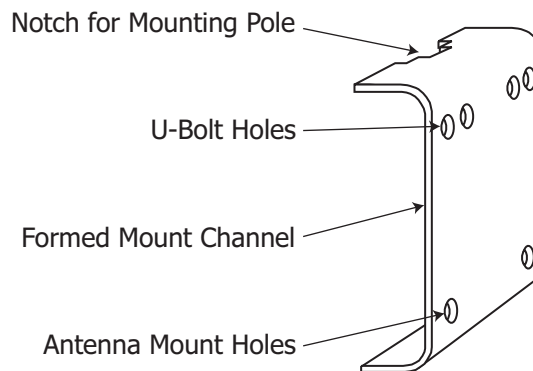
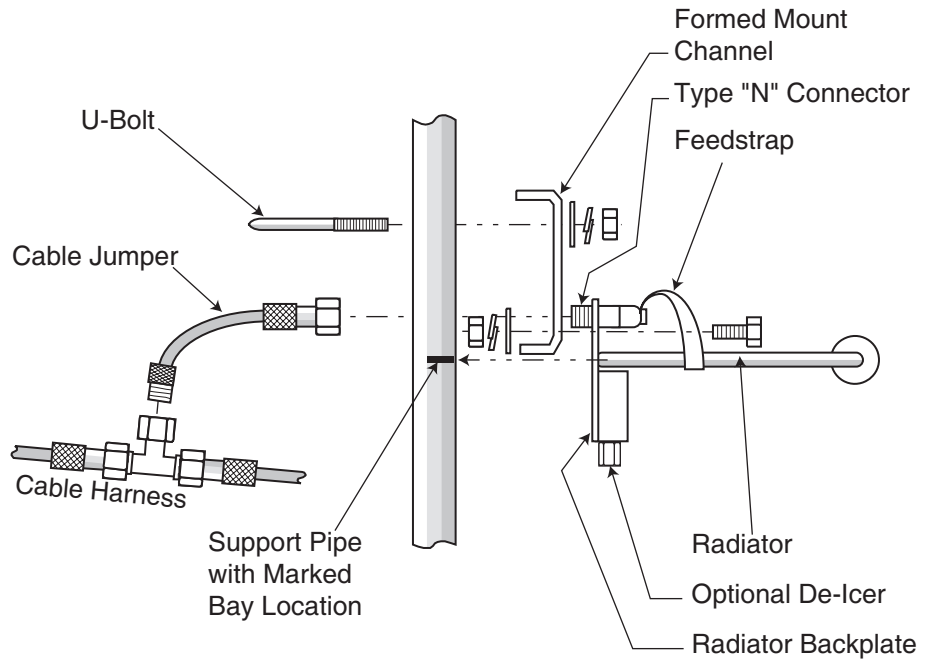
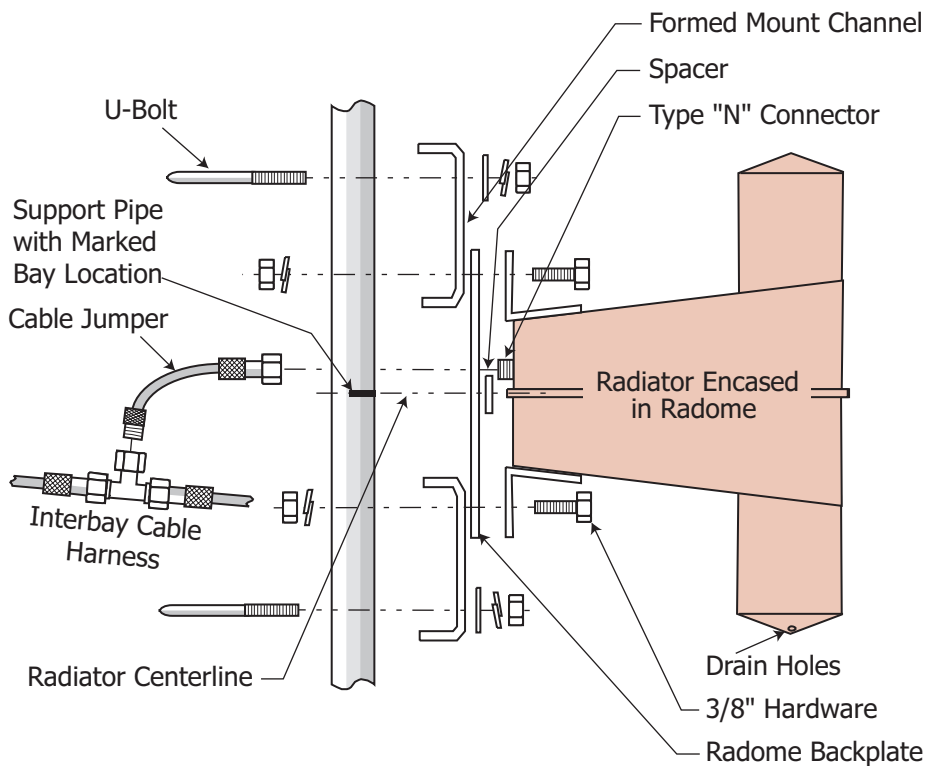

Figure 2. Formed mount channel
Figure 3. Installation of radiator without radome, exploded view
Figure 4. Installation of radiator with radome, exploded view
Radiators are mounted to the support pipe by means of formed mount channels (Figure 2). One formed mount channel is required for each bay without radomes (Figure 3 on page 4); two channels for a bay with radomes (Figure 4 on page 4).
- b. Locate radiator #1 at the topmost mark you made on the support pipe. Using the U-bolt, nuts, and washers, clamp the formed mount channel and the radiator assembly to the support pipe, as shown in Figure 3 on page 4 or Figure 4 on page 4.
- c. Mount the radiators to the support pipe by means of formed mount channels (Figure 4 on page 4). Two formed channels are required for each bay.